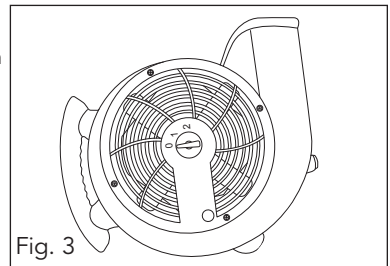

Fig. 3
- 90° Position for applications such as; drying paint on the ceiling. To use this position, lay the unit on the back with the air outlet (1) pointing towards the ceiling (Fig. 3).